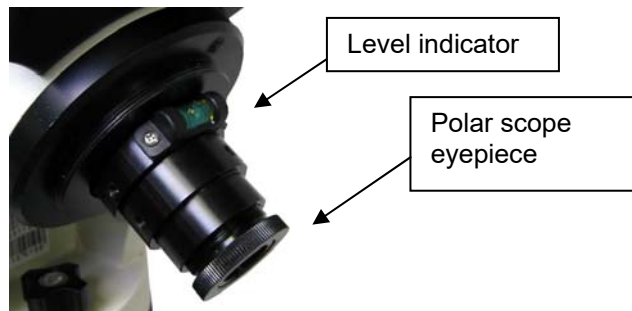

Figure 16. Polar scope with bubble level indicator
- (1) Level the iEQ45 Pro mount. Make sure the telescope optical axis is parallel to the polar axis (R.A. axis) of the mount. If using a finder scope, adjust it to be parallel to the telescope optical axis. Remove both the Polar Axis Cover and Polar Scope Cover.
- (2) Thread the polar LED into the threaded hole located on the Polar Scope. Connect one end of the polar scope power cable to the illumination LED and the other end to the Reticle socket located on main control board. Turn the mount power on. Use the Hand Controller (“**Settings**” => “**Polar Scope Brightness**”) to set the illumination intensity.
- (3) Use the ▲ or ▼ key to turn the DEC axle to unblock the Polar Scope view.
- (4) Adjust polar scope eyepiece shown in Figure 16 to bring the polar scope dial in focus.
- (5) Use the ◀ or ▶ key to adjust polar scope dial to ensure that 12 o'clock is at the top. If the polar scope is equipped with a bubble level indicator, you may use the bubble as the reference. **You may release four R.A. clutch screws and hold the OTA while rotate the Polar Scope so the mount will stay at the Zero Position. It is also convenient to rotate the polar scope before loading the CW and OTA.**